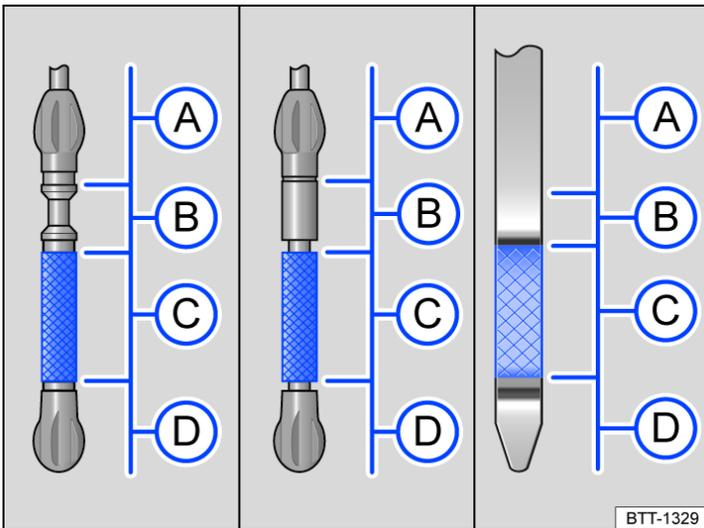
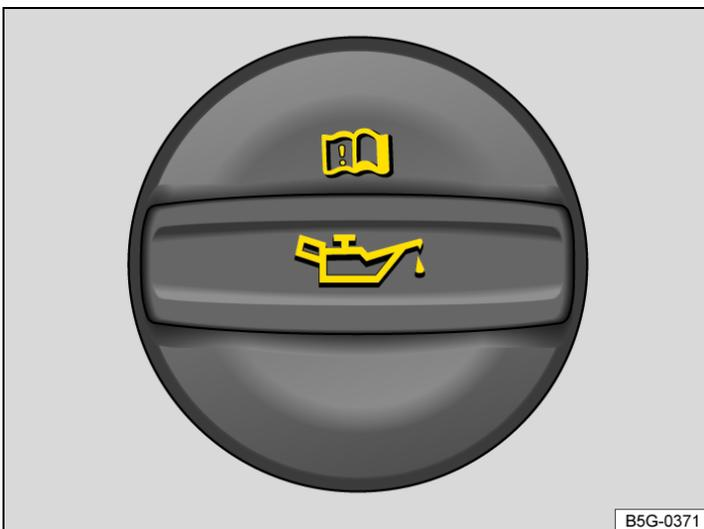

Fig. 1 Engine oil level markings on the oil dipstick (variants).
Fig. 2 In the engine compartment: engine oil filler cap (illustration).
Key to → Fig. 1:
4. Identify the engine oil filler cap and oil dipstick. The engine oil filler opening can be recognised by the symbol  on the cap and the oil dipstick has a coloured handle → Fig. 2. If you cannot find the cap and oil dipstick, please contact a qualified workshop.
7. Pull out the oil dipstick again and read the engine oil level on the dipstick as follows → *Fig. 1*:
- (A) Engine oil level is too high. Observe any messages that are shown on the instrument cluster display or contact a qualified workshop → (1).
- (B) Do not fill engine oil → (1). Continue with step 16.
- (C) Engine oil level OK. The engine oil can be refilled to the upper limit of this area, e.g. if the engine is operated at high loads. Continue with step 8 or 16 → (A).
- (D) Engine oil level too low. It is essential to fill engine oil. Continue with step 8.
9. Unscrew the engine oil filler opening cap → *Fig. 2*.
12. Read the engine oil level from the dipstick again before refilling with a further small quantity of engine oil. Never overfill with engine oil → (1).